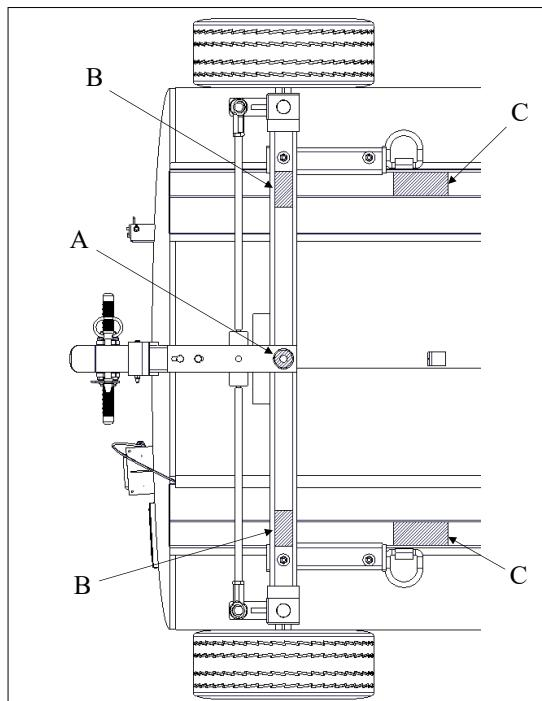

Figure 4-11 Lift Points
To remove the entire Rear Undercarriage assembly, the equipment must have the back end raised. See Sections 4.12, and 4.13 with Figure 4-11.
- a. Raise equipment with suitable maintenance jack (see Figure 4-11 reference arrow A for jack placement) and allow for two inches of space between the wheels and the ground.
- b. Place cribbing under tank skids to safely support the equipment. (See Figure 4-11, reference points labeled with a C).